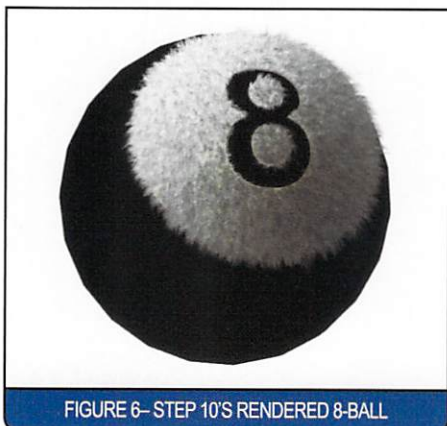

FIGURE 6- STEP 10'S RENDERED 8-BALL
10. Render the 8-Ball (F9). *SEE FIGURE 6.*